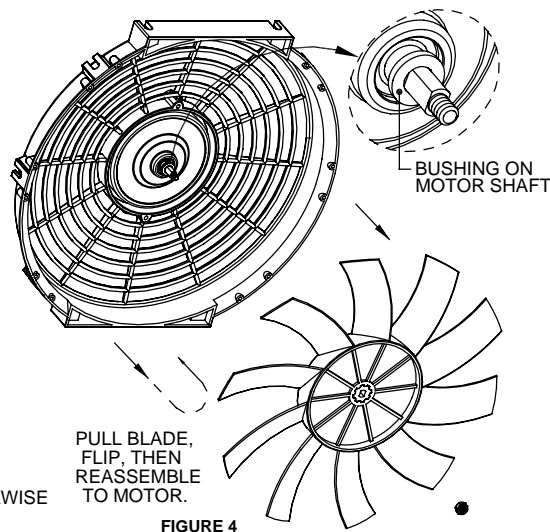

FIGURE 4
2. Carefully pull the blade off the motor shaft. Caution: Edges of blade are sharp. Do not try to drive the motor out by impact! This will destroy the motor and void the warranty. Flip the blade, then place back on the unit by lining up the hub center with the motor shaft. Blade will rest on spacers as shown in figure 4. Be very carefull not to loose any of the spacers.